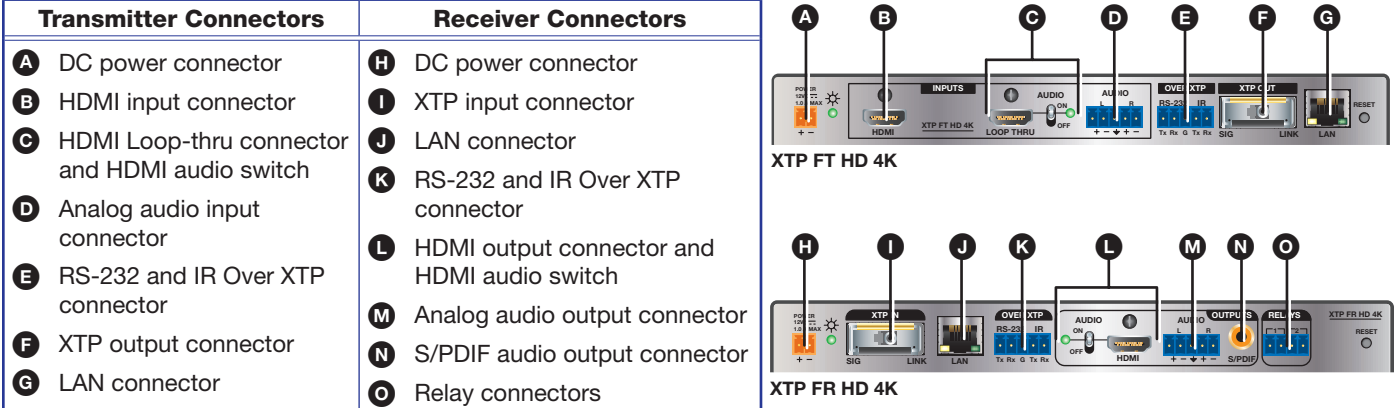

Figure 1. Rear Panel Connectors
- a. Connect a digital video source to the female HDMI connector (see figure 1, **B**) on the transmitter. It accepts HDMI, DVI (with an appropriate adapter), or dual mode DisplayPort video signals.